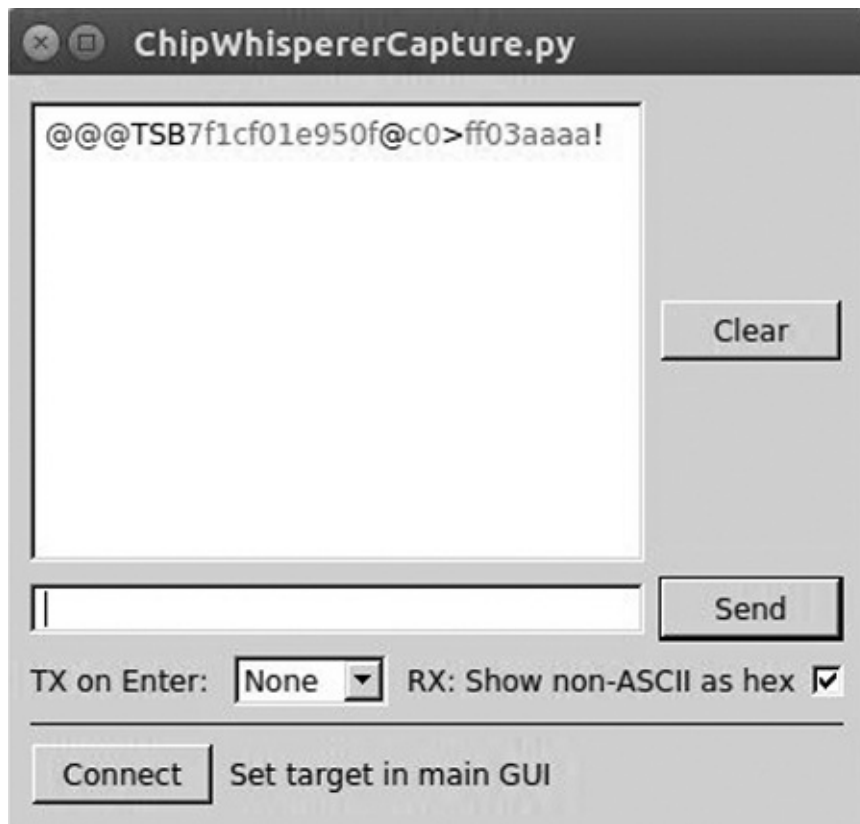

Figure 8-12: ChipWhisperer serial terminal
4. The ChipWhisperer comes with a simple serial terminal interface. Choose **Tools ▸ Open Terminal** to open it. You should see a terminal like the one shown in Figure 8-12.
5. Set TX on Enter at the bottom of the terminal to **None**, and check the box that says **RX: Show non-ASCII as hex** (see Figure 8-12). Now click **Connect** to enable your text areas.
6. Enter **@@@** (TinySafeBoot's start-up password) in the text field to the left of the Send button, and click **Send**. The bootloader should start with TSB and mainly contain information about the firmware version and AVR settings. TSB is just an identifier used by TinySafeBoot, most likely its initials. The output should match that in Figure 8-12.